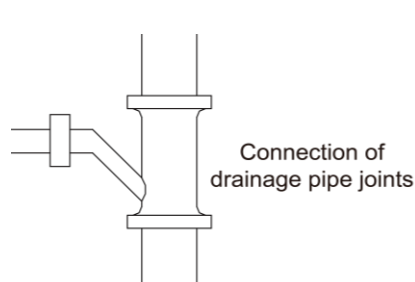

Fig 4.3.6
- (6) Install one trap for each unit.
- (7) Convenience for cleaning trap in the future should be considered when installing it.
- (8) The horizontal pipe can be connected to vertical pipe in the same level; please select the connection way as shown in following fig.
- NO.1: Connection of drainage pipe joints (Fig 4.3.6).